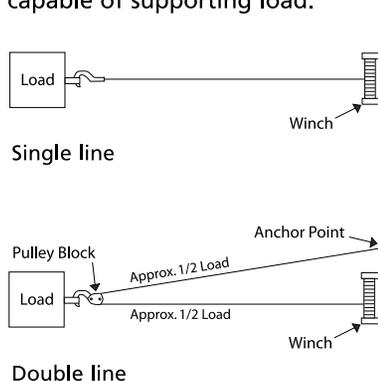

Figure 2
1. The AC1500 winch is rated at 1,500 pounds (680 kg) (single line) capacity on the wire rope layer closest to the drum. **DO NOT OVERLOAD. DO NOT ATTEMPT PROLONGED PULLS AT HEAVY LOADS.** Do not maintain power to the winch if the motor stalls. Overloads can damage the winch and/or the wire rope and create unsafe operating conditions. **FOR LOADS OVER 750 POUNDS (340 KG), WE RECOMMEND THE USE OF THE OPTIONAL PULLEY BLOCK TO DOUBLE LINE THE WIRE ROPE** (Figure 2). This reduces the load on the winch and the strain on the wire rope by approximately 50%. Do not hook back to winch. Always hook onto structure capable of supporting load.